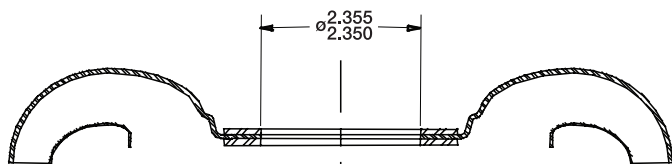

Figure 1
1. Center the turbine in a lathe and bore a 2.350"/2.355" diameter hole (see Figure 1).